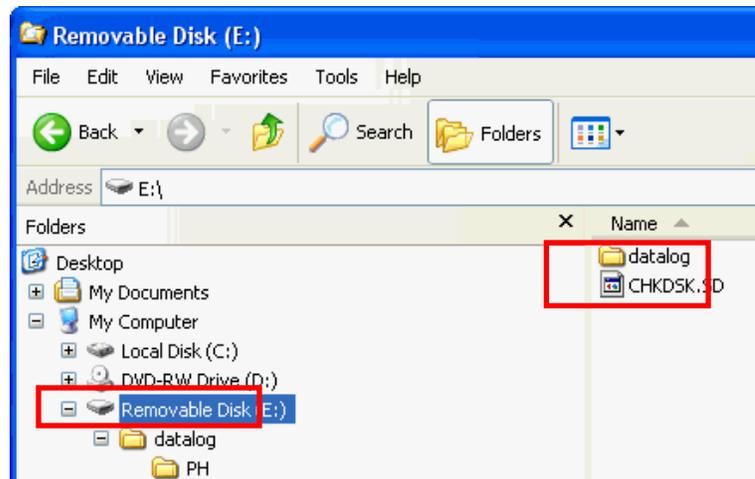
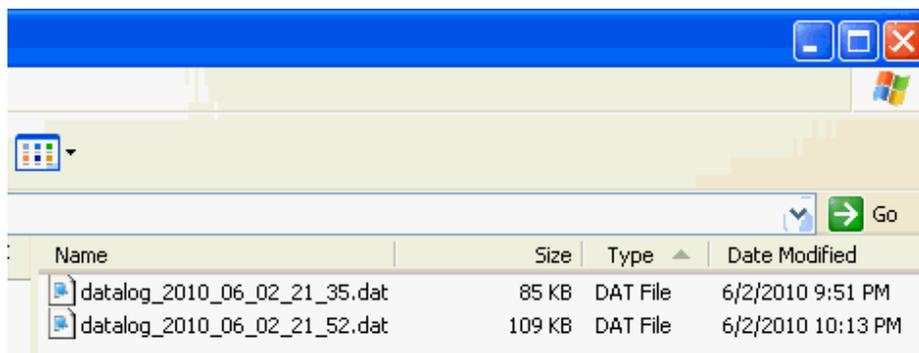

Figure 6: Datalog Folder and CHKDSK.SD File on Removable Disk
Figure 8: Automatically Generated Datalog Files
4. Prior to logging data, type the command [FSFORMAT]A:;DEFAULT to check for corruption and to format the internal flash drive; a "CHKDSK.SD" file will be created automatically upon completion of formatting and stored in the "datalog" folder (see Figure 6).
6. Create a directory in the current working directory for data logging: Type [FSMKDIR] followed by a directory name. (i.e. [FSMKDIR] “Pt_Conception”, Refer to the [FSMKDIR] command for details on creating directories.) Repeat to create multiple directories for data logging. The directories will be stored in the “datalog” folder (see Figure 6).
Each time data logging is restarted, a new log file is created (see Figure 8). The log files are created in a datalog_YYYY_MM_DD_HH_MM.dat format.
2. On the *Input Terminal*, type [USBMODE]Device, MassStorage. The SF-3050 2GB internal memory chip will show in Windows Explorer as an additional “removable” drive (see Figure 6).
3. Open the datalog folder (see Figure 6) on the removable drive and select the folders or files to store on the PC (see Figure 8).